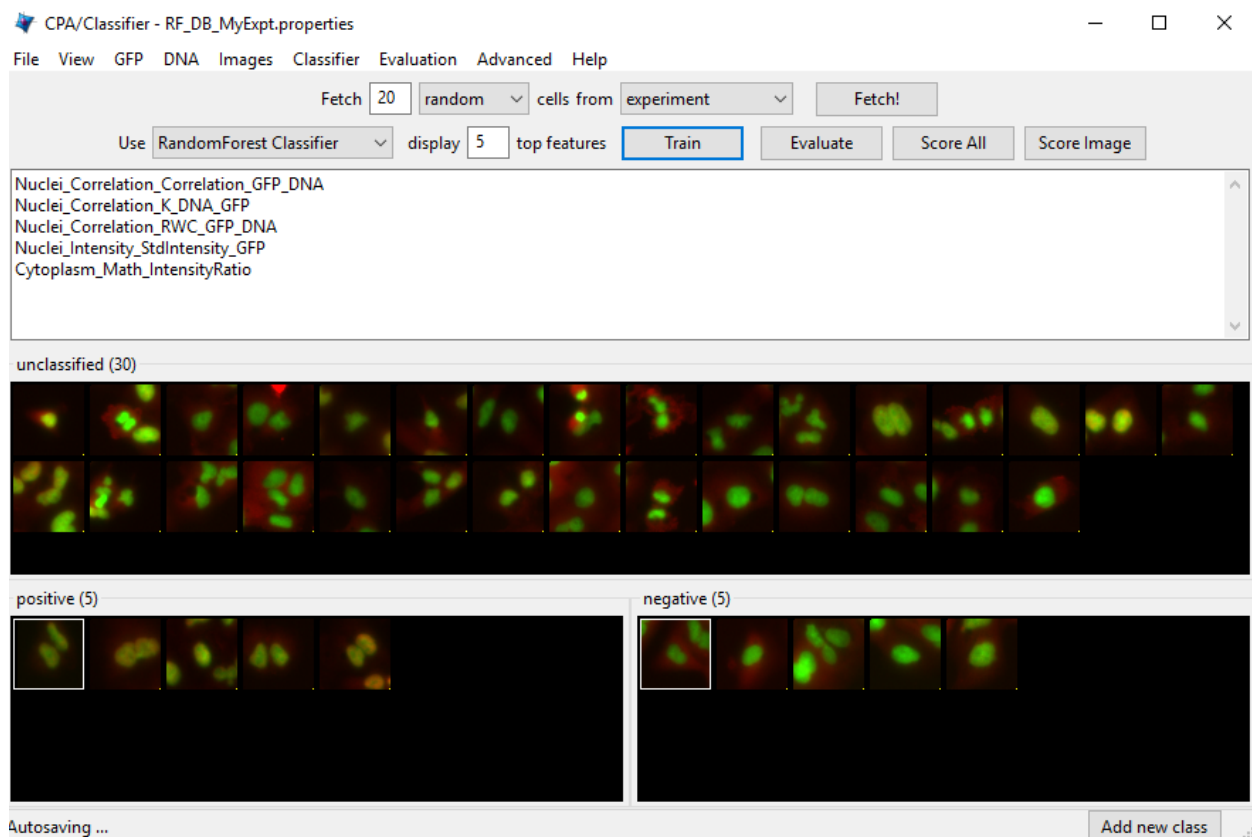

Figure 3: Classifier interface
- a) Click-on the *Classifier* (Figure 3) to start the machine-learning classification tool. In this case, we will “train” the classifier to recognize cells in which NFkb is located exclusively in the nucleus (“positives”) versus outside the nucleus (“negatives”) by sorting examples of each into bins.